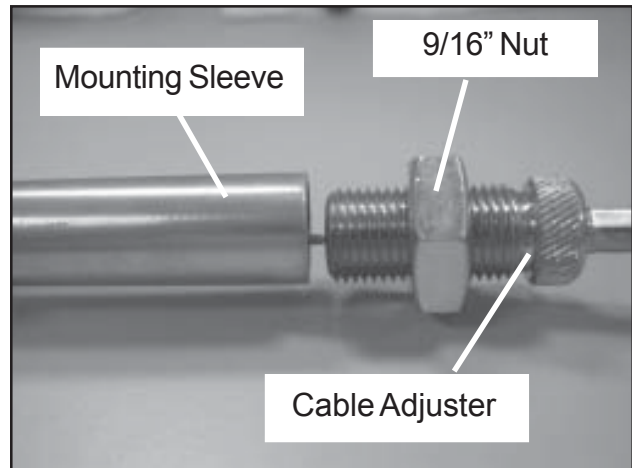

Figure 17 Mounting Sleeve and Cable Adjuster
2. Unscrew mounting sleeve from cable adjuster (two silver knurled pieces), **Figure 17**.
11. Thread cable adjuster and mounting sleeve together, **Figure 17**. Make sure brass piece is far enough in mounting sleeve to engage threads.